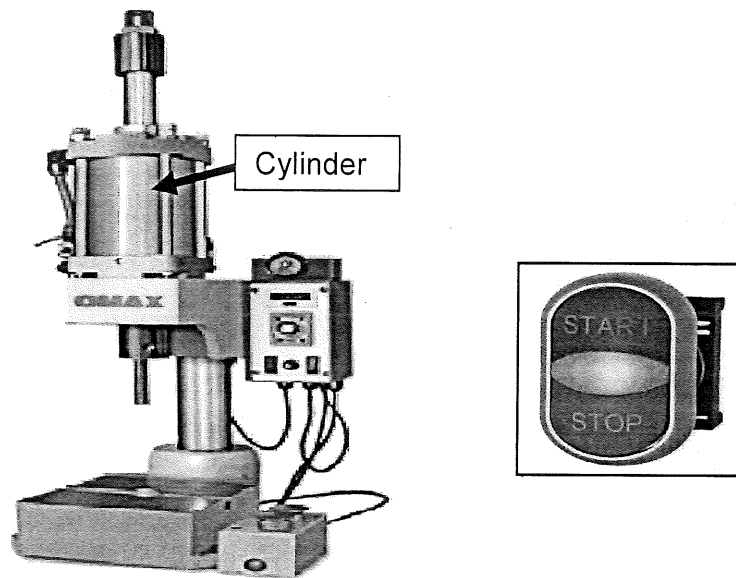

Figure 2
- a) Figure 2 show electro pneumatic press machine. When the START Switch is activated the cylinder will go to the extend position and remain in the extend position even if the START switch is no longer activated. The cylinder will only go to the retract position when the STOP switch is activated.